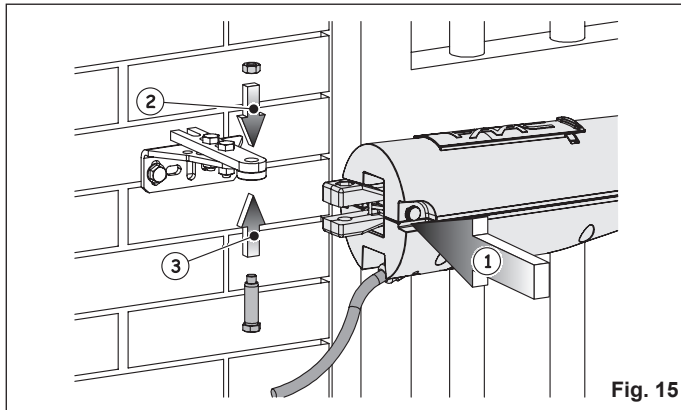

Fig. 15
6. Secure the operator to the rear bracket using the appropriate bolt supplied, as indicated in Figure 15.